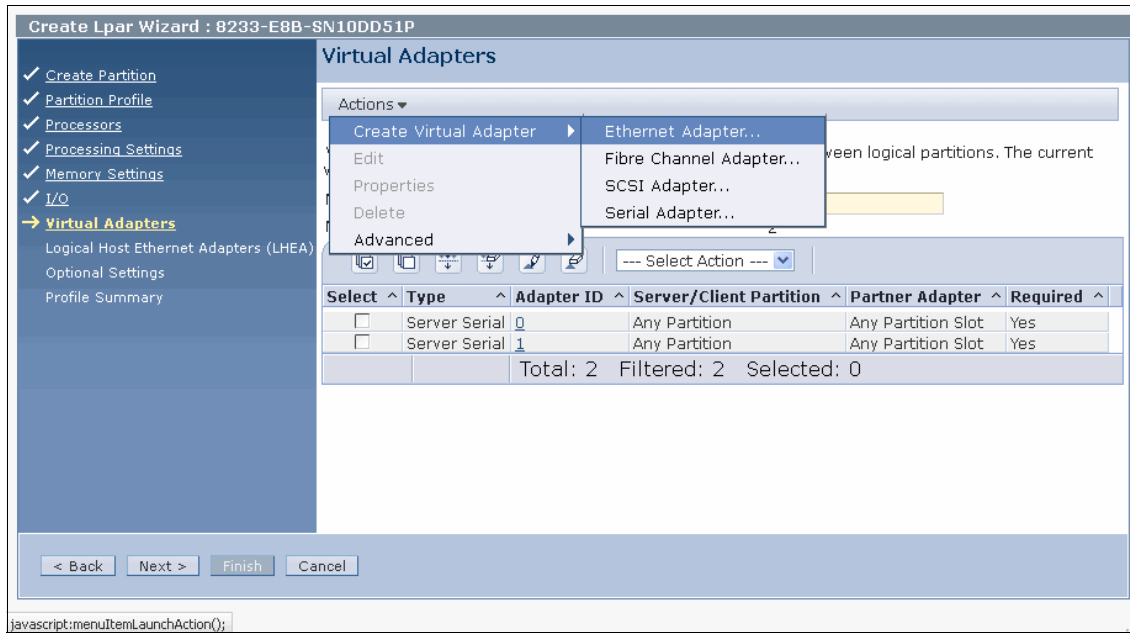

Figure 4-31 Configuring virtual resource
- a. Select **Actions** → **Create** → **Ethernet Adapter** to create a virtual Ethernet share. See Figure 4-31.